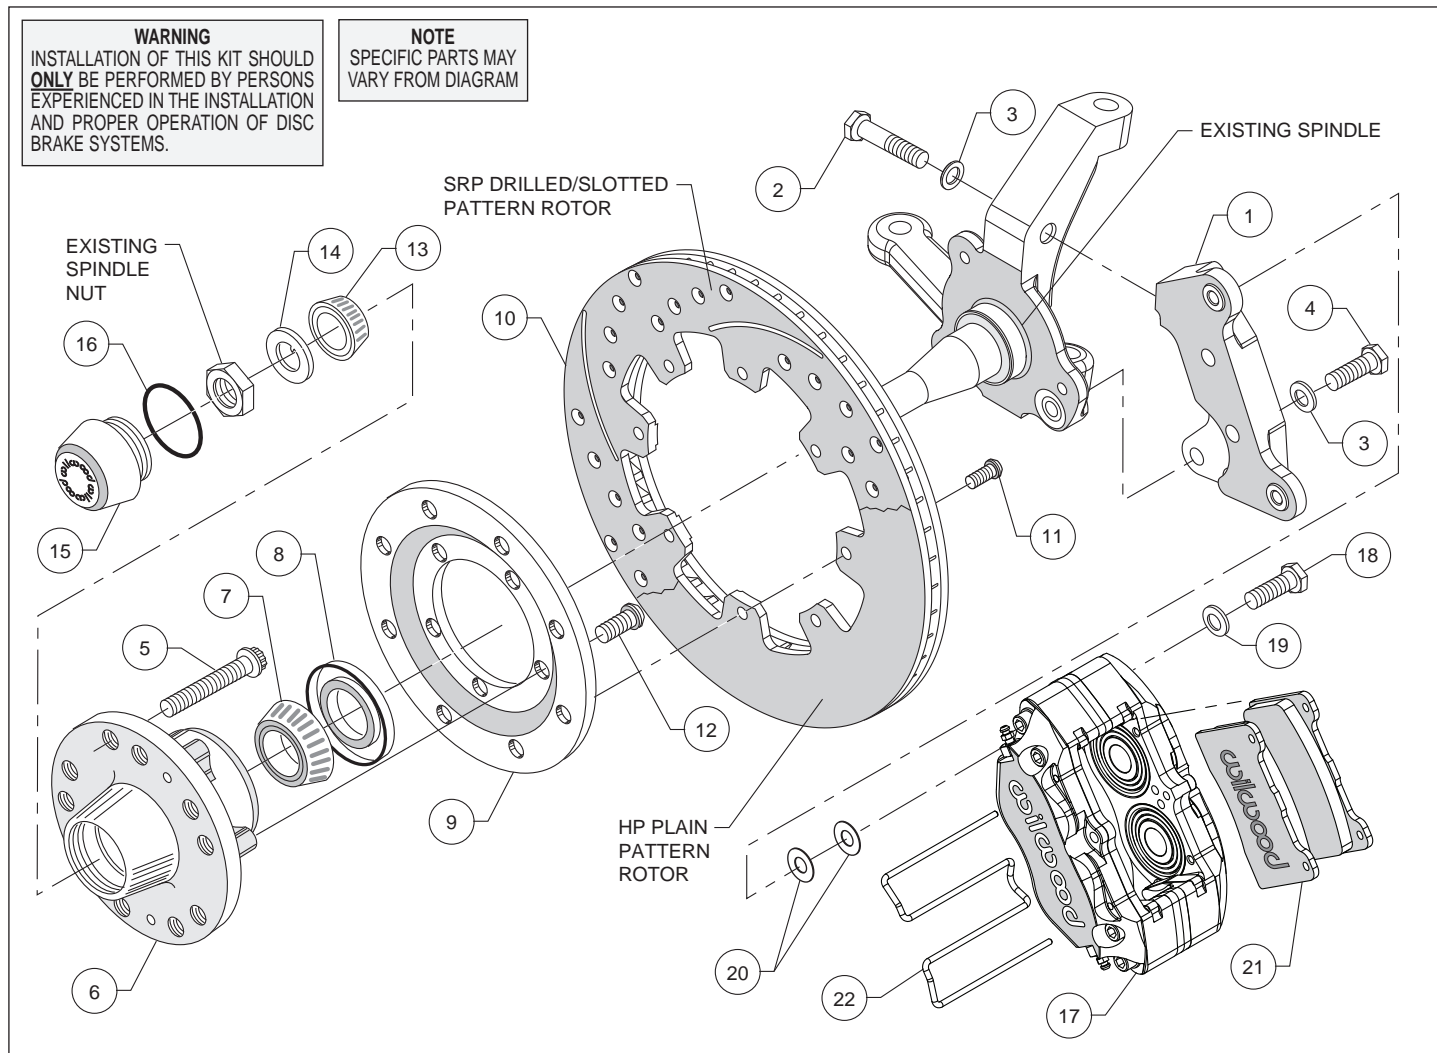
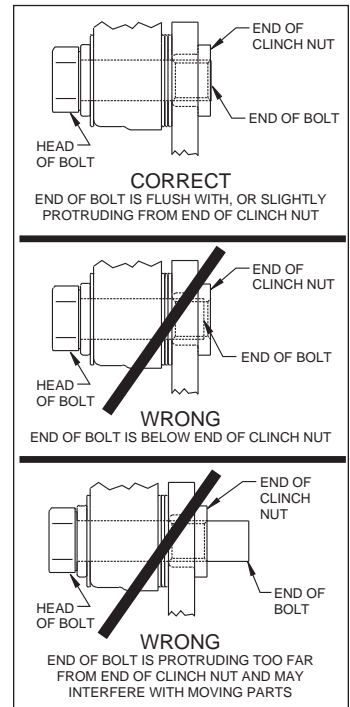

Figure 1. Typical Installation Configuration
Figure 3. Clinch Nut Engagement Diagram
Assembly Instructions (numbers in parenthesis refer to the parts list, on the preceding page and Figure 1): **CAUTION:** All mounting bolts must fully engage clinch nuts. Be sure to check that all bolts are either flush or protruding through flanged side of clinch nut after shimming, Figure 3.
- Align caliper mounting bracket (1) with the corresponding holes on the spindle. Attach using bolts (2 and 4) and washers (3) as shown in Figure 1 and Photo 1. Temporarily tighten the mounting bolts. Ensure that the flanged heads of the clinch nuts in the bracket are facing outboard, Photo 1. **NOTE:** The bracket must fit squarely against the mounting points on the spindle. Inspect for interference from casting irregularities, machining ridges, burrs, etc. Remove bolts one at a time, apply red *Loctite*® 271 to threads and torque to 47 ft-lbs.
- Install the grease seal (8) by pressing into the backside of the hub (6), flush with the end of the hub, Photo 3.
- Orient the rotor (10) and the rotor adapter (9) as shown in Figure 1 and Photo 4. Attach the rotor to the adapter using bolts (11). Using an alternating sequence, apply red *Loctite*® 271 to the threads, and torque to 25 ft-lb.
- Mount the adapter/rotor assembly (9/10) to the hub (6) using bolts (12), as shown in Figure 1 and Photo 5. Using an alternating sequence, apply red *Loctite*® 271 to the threads, and torque to 55 ft-lb.
- NOTE:** Please reference the caution statement at the beginning of the assembly instructions. Mount the caliper (17) onto the caliper mounting bracket (1) using bolts (18) and washers (19), as shown in Figure 1. Initially place two .035" thick shims (20) on each bolt between the caliper and the bracket, Photo 8. Temporarily tighten the mounting bolts and view the rotor (10) through the top opening of the caliper. The rotor should be centered in the caliper, Photo 9. If not, adjust by adding or subtracting shims between the bracket and the caliper. Always use the same amount of shims on each of the two mounting bolts. **NOTE:** The end of each bolt must be flush with or slightly protruding from the head of the clinch nut, as shown in Figure 3. If necessary place spare shims between washer (19) and caliper mounting ear to achieve the proper clinch nut engagement. Once the caliper alignment and clinch nut engagement are correct, remove the bolts one at a time, apply red *Loctite*® 271 to bolt threads, and torque to 40 ft-lb.
- Install the disc brake pads (21) into the caliper, with the friction material facing the rotor (10), and secure in place using pad retainer clip (22), Photo 10.